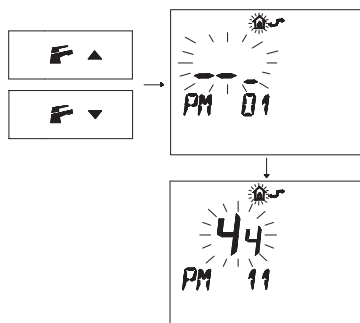

Fig. 7.33
- Press buttons **PM** or **01** to display the "PM11" program of the pump post-circulation (Fig. 7.33).